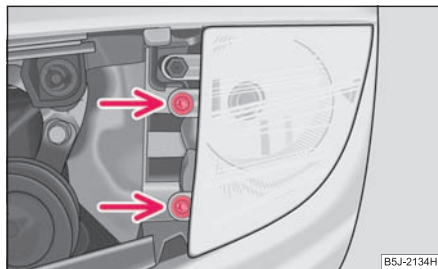

Fig. 215 Structure of the light bulb of the fog light
- Release the screws ⇒ fig. 215 and remove the fog light.
- Screw in the screws ⇒ fig. 215 and re-insert the grille ⇒ page 213. ■